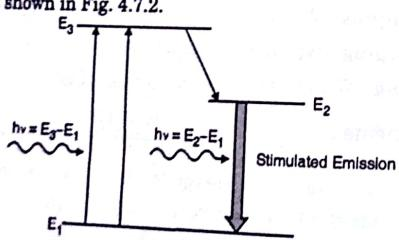

Fig. 4.7.2 : Stimulated emission in 3 levels
- A photon with energy $h\nu = E_2 - E_1$ may trigger the stimulated emission process as shown in Fig. 4.7.2.